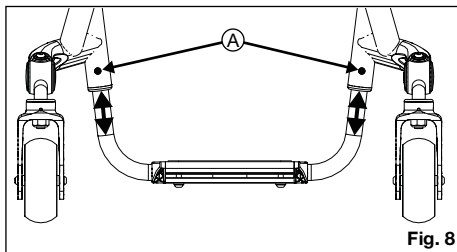

Fig. 8
- Loosen the set screw (Fig. 8:A) on each side of the frame using a 3 mm Allen wrench. Do not remove the screws.
- Adjust the footrest tube up or down to achieve the desired height (Fig. 8).